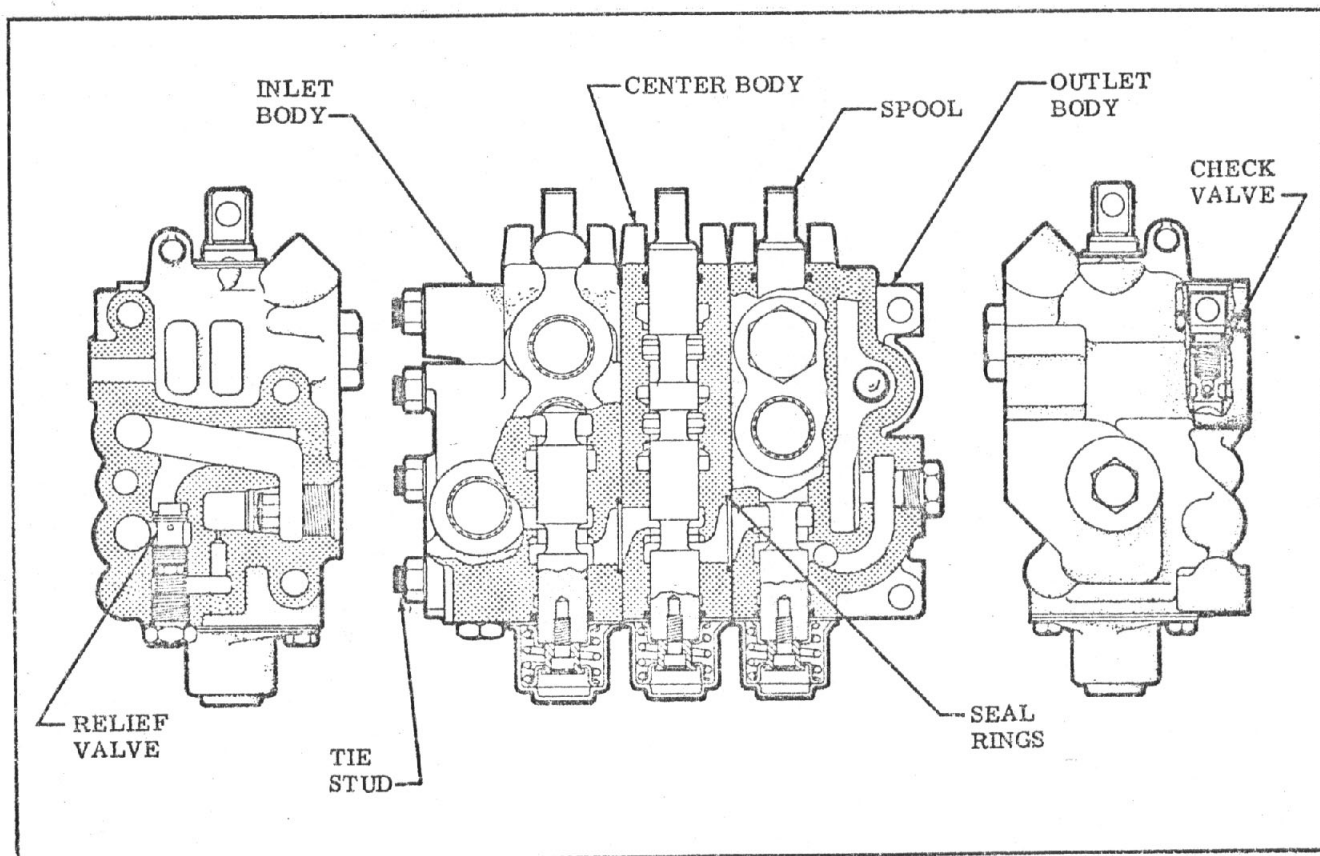

Figure 1
b. Assembly and Construction--Figure 1 is a cross-sectional view showing the construction and assembly of a three-section valve. Each section normally contains a sliding spool with centering springs and a check valve. The inlet section also contains a relief valve assembly. Passages between the bodies connect each section to the common inlet and tank ports. Seal rings between the sections seal the connecting passages. Sections are held together by studs and nuts.